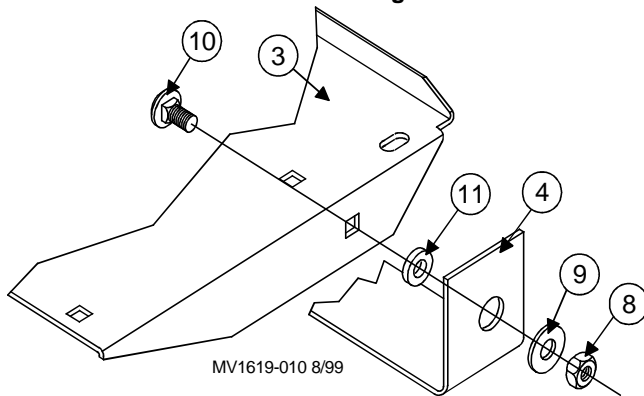

Figure 8. Assembly Detail
6. Mount the Pivot Motor Mount Plate, on the new U-Motor Mount Bracket using the two carriage bolts, with the bolt head to the inside, **see Figure 8**, bushings, flat washers, and lock nuts which are provided.